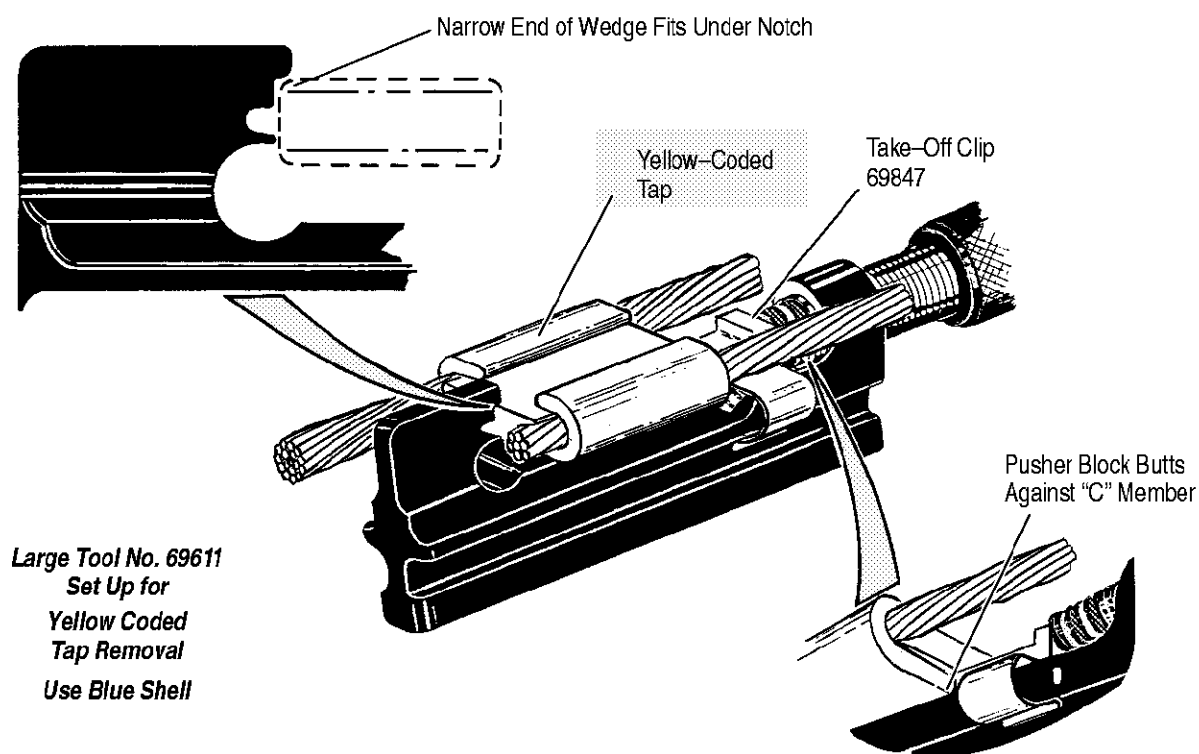

Figure 34
-  Use take-off clip No. 69847 and blue shell for removal of large yellow coded taps. Narrow end of wedge fits under notch of tool and curved portion of pusher block butts against "C" member as shown in Figure 34.